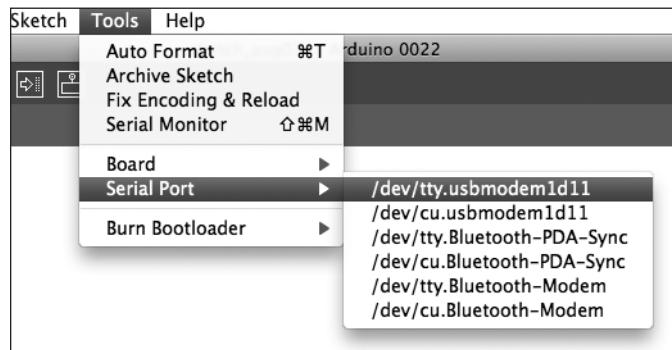

Figure 1-12: Selecting the USB port
3. You're almost there—just two more things to do before your Arduino IDE is ready to use. First, you need to tell the IDE which type of socket the Arduino is connected to. Select **Tools** ▶ **Serial Port** and select the `/dev/tty.usbmodem1d11` option, as shown in Figure 1-12.